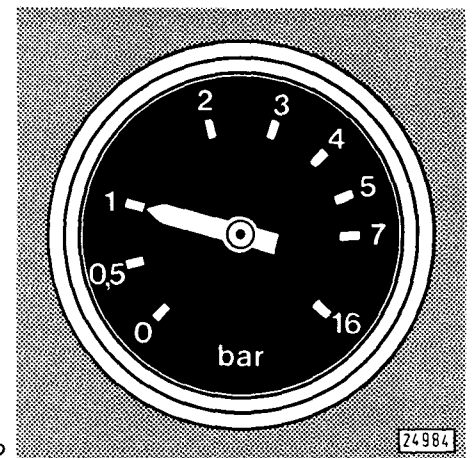

Fig. 22
- The pointer of the oil pressure gauge (Fig. 22) (if provided) indicates a pressure of at least 1.0 bar.